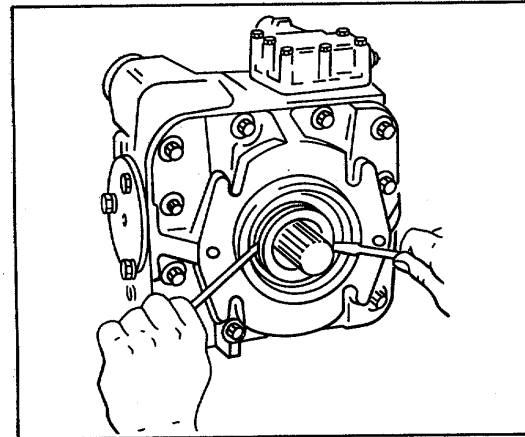

Figure 17.
3. Remove aluminum seal retainer with screwdriver (refer to Fig. 17).